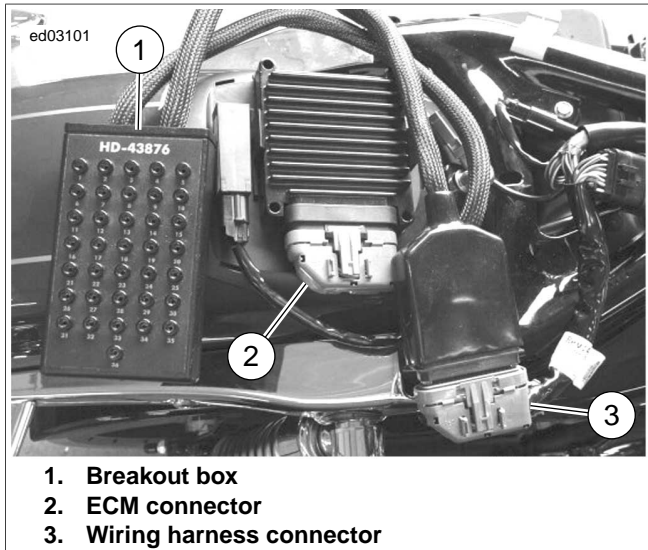

Figure 1-27. Breakout Box
3. See Figure 1-27. Connect BREAKOUT BOX (Part No. HD-43876) to connectors.